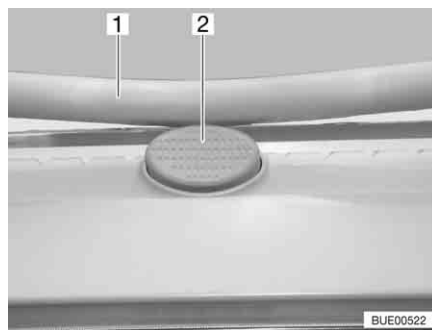

Fig. 110 Safety knob on the Heki skylight
- Press the safety knob (Fig. 110,2) and pull the bar (Fig. 110,1) down with both hands.
- Push the bar upwards with both hands until it is above the safety knob (Fig. 110,2).